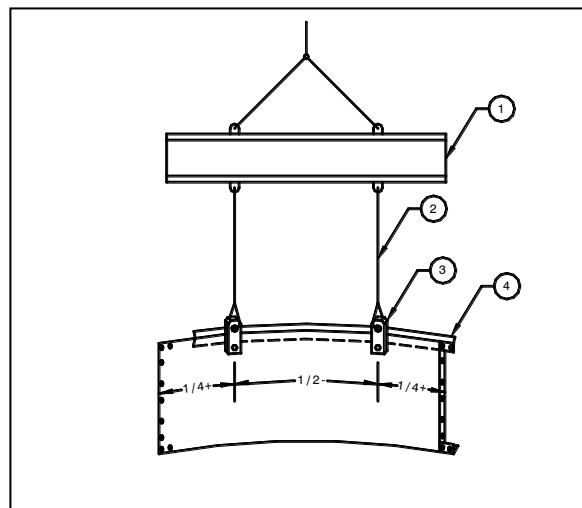

Figure 2.14b - Lifting Less Rigid Sections
- b. When lifting large, less rigid, feedwell sections, a spreader beam (shown in Figure 2.14b) should be used to provide a vertical lift.